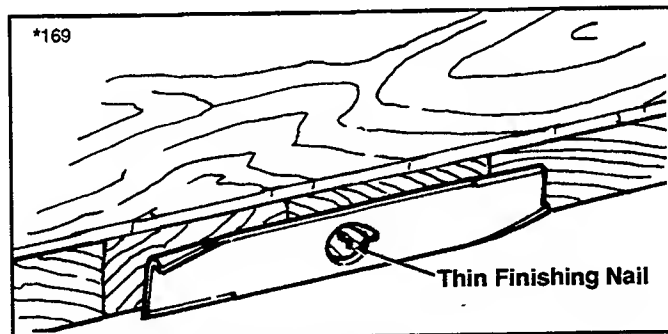

Figure 18 Balancing The Blade
5. Balance the blade as shown in figure 18. Center the blades' hole on a nail lubricated with a drop of oil. A balanced blade will remain level.